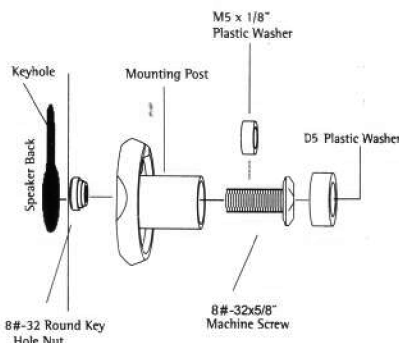

Figure 4
- Loosely pre-assemble the mounting post with the 8#-32x5/8\" machine screw and key hole nut (Figure 4).
- Put tension on the assembly by gently pulling back on the speaker mount post while tightening the 8#-32x5/8\" machine screw (Figure 4).
- If the post does not tighten securely against the housing, it will be necessary to use the M5 x 1/8\" plastic washer as a spacer under the head of the 8#-32 x 5/8\" machine screw (Figure 4).